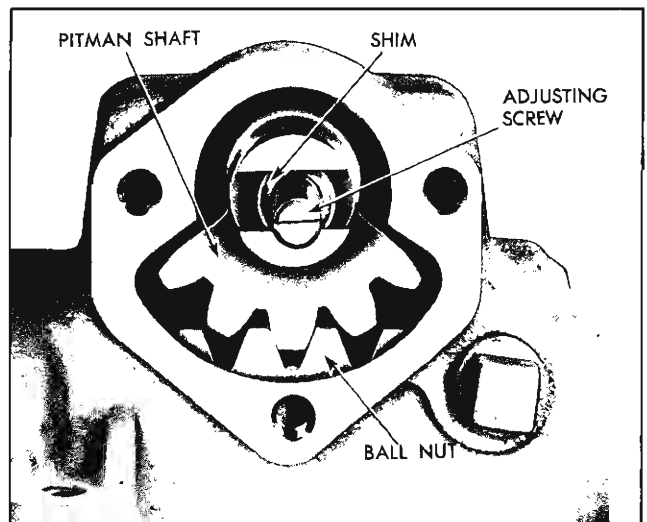

Fig. 9-28 Adjusting Worm Bearing Preload
6. Install pitman shaft and adjusting screw with sector and ball nut teeth positioned as shown in Fig. 9-28.